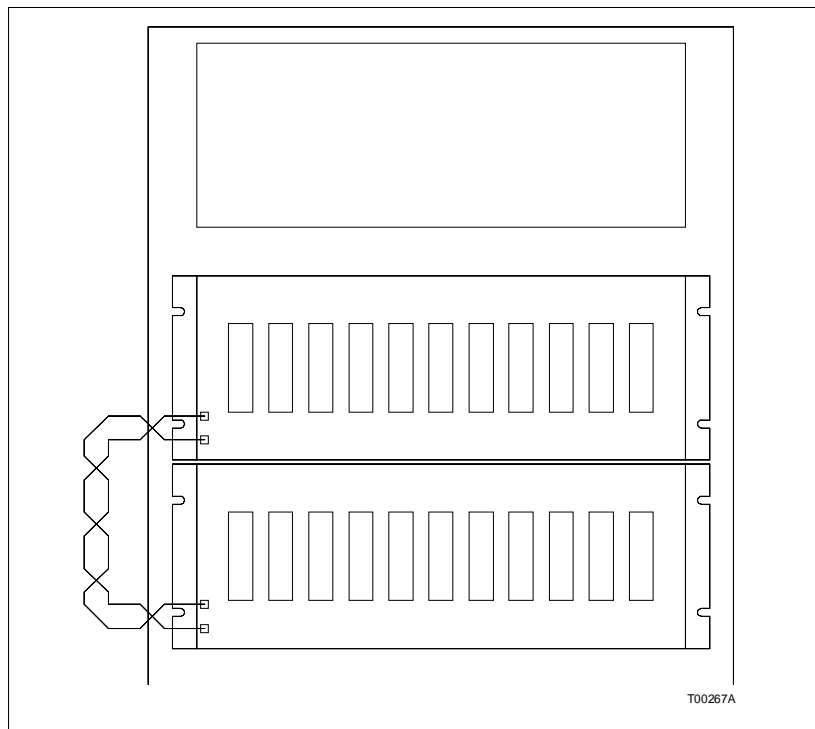

Figure 3-3. Module Bus Cable Installation
1. Attach one end of the Module Bus Cable (two-wire, twisted pair) to the second column of two tabs on the lower left of the MMU backplane (facing from behind). See Figure 3-3.